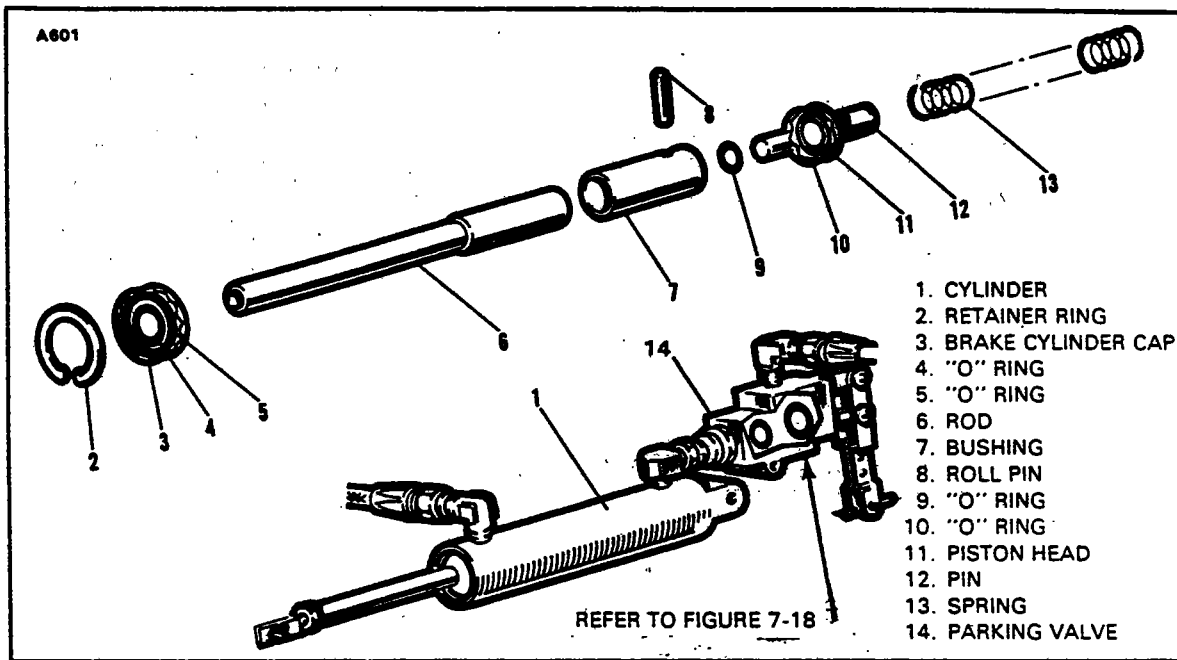
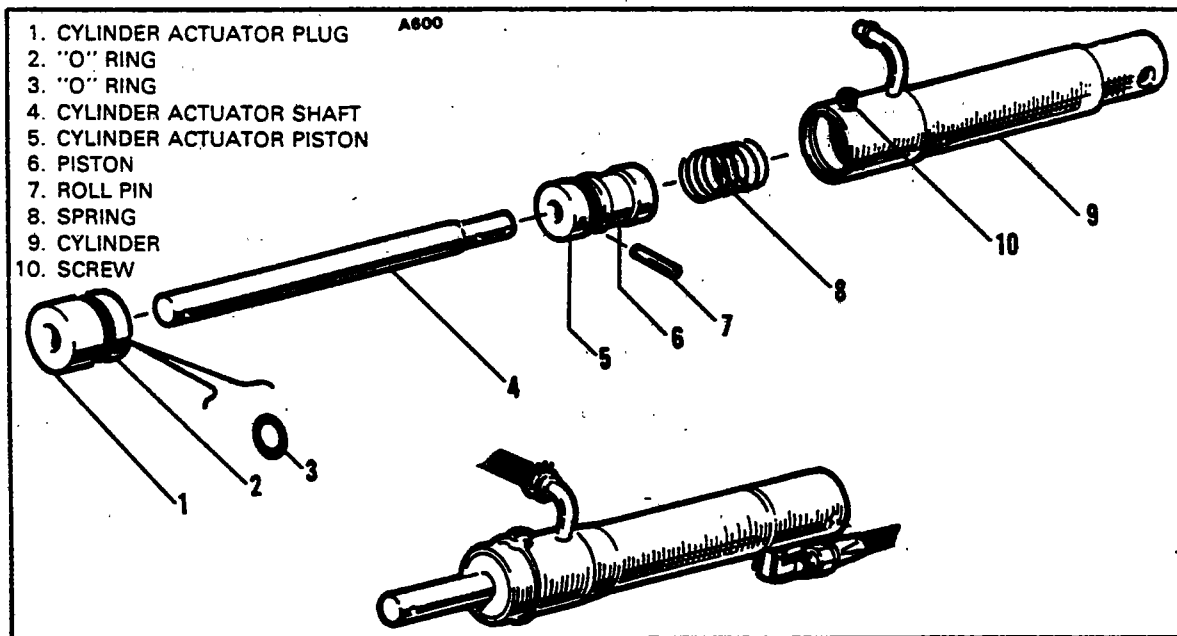
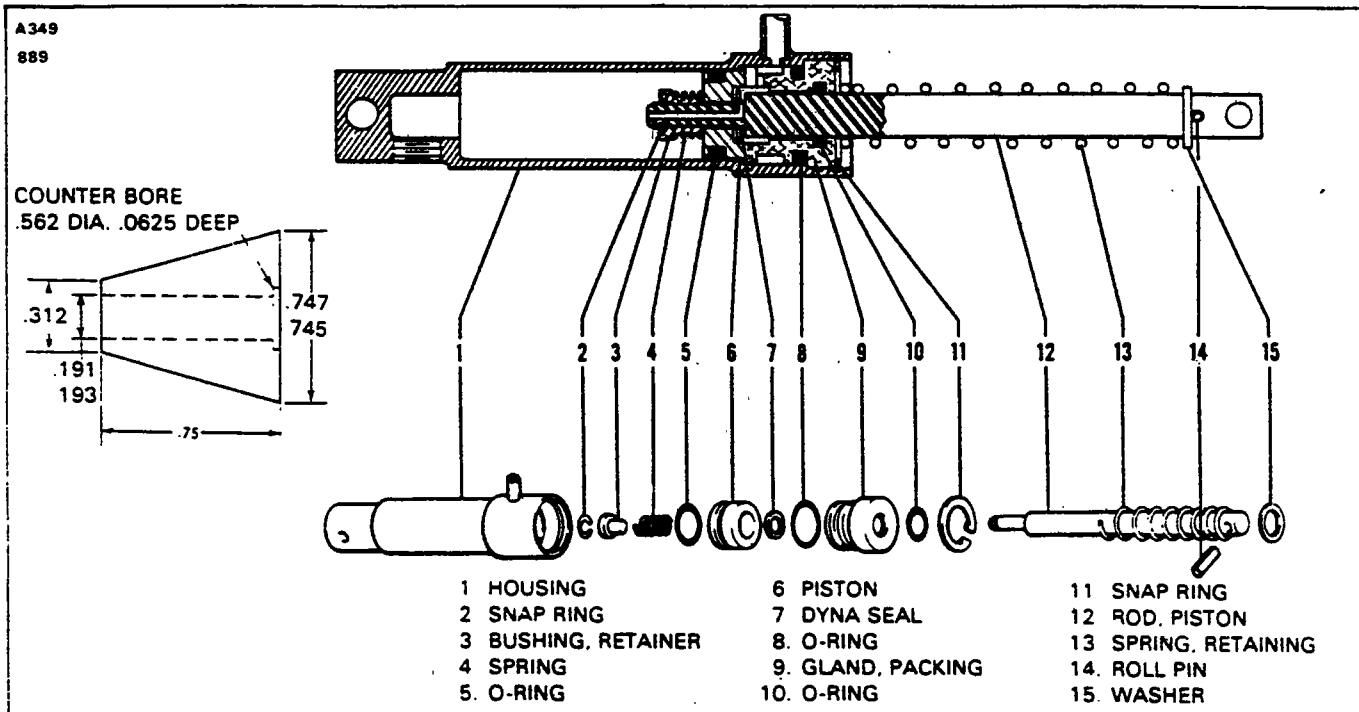

Figure 7-15. Brake Master Cylinder (Hand Brake)
Figure 7-16. Brake Master Cylinder (Hand/Parking Brake)
Figure 7-17. Brake Master Cylinder. (Hand/Parking Brake)
- a. PA-28-150, -160, Serial Nos. 28-1 to 28-250 incl. (Refer to Figure 7-15.)
2. To disassemble the cylinder, first remove the piston rod assembly by removing the retainer ring (2) from the annular slot at the rod end of the cylinder. Draw the piston rod assembly from the cylinder. Remove the spring (13) from the cylinder.
3. The piston rod assembly may be disassembled by first removing the clevis end from the piston rod (6) and then sliding off the brake cylinder cap (3).
4. Remove the roll pin (8) from the bushing (7) thus releasing the piston head and O-rings (9 and 11).
- b. PA-28-140, Serial Nos. 28-20002 to 28-21036 incl; PA-28-150, -160, -180 Serial Nos. 28-251 to 28-2700 incl; PA-28-235, Serial Nos. 28-10003 to 28-10679 incl. (Refer to Figure 7-16.)
2. Cut the safety wire and remove screw (10) that secures the plug (1) in the end of the cylinder (9).
3. Remove the plug (1) and piston assembly from the cylinder by pulling the cylinder actuator shaft (4) from the cylinder.
4. Remove the spring (8) from within the cylinder.
5. Remove the roll pin (7) from the cylinder actuator piston (5) and pull off the piston.
- c. PA-28-140, Serial Nos. 28-21037 and up; PA-28-150, -160, -180, Serial Nos. 28-2701 and up; PA-28-235, Serial Nos. 28-10698 and up. (Refer to Figure 7-17.)
2. To disassemble the cylinder, first remove the piston rod assembly by removing the snap ring (11) from the annular slot at the rod end of the cylinder. Draw the piston rod assembly from the cylinder.
3. The piston rod assembly may be disassembled by first removing the small snap ring (2) securing the retainer bushing (3), spring (4), piston (6), seal (7), gland (9), and, if desired, the large retainer spring (13).
- a. PA-28-150. -160. Serial Nos. 28-1 to 28-250 incl. (Refer to Figure 7-15.)
b. PA-28-140, Serial Nos. 28-20002 to 28-21037; PA-28-150, -160, -180, Serial Nos. 28-251 to 28-2700 incl; PA-28-235, Serial Nos. 28-10003 to 28-10697 incl. (Refer to Figure 7-16.)
1. Install the new "O" rings (2 and 3) on the cylinder plug (1).
2. Install the cylinder actuator piston (5) on the actuator shaft (4) and secure with the roll pin (7).
3. Install a new "O" ring (6) on the actuator pin.
4. Place the spring (8) into the cylinder housing, and carefully slide the actuator and shaft assembly into the housing.
5. Install the plug assembly (1) on the shaft and install the screw through the housing.
- c. PA-28-140. Serial Nos. 28-21037 and up; PA-28-150, -160, -180. Serial Nos. 28-28-2701 and up; PA-28-235. Serial Nos. 28-10698 and up. (Refer to Figure 7-17.)
1. Install new "O" ring on the inside and outside of the packing gland (9) and on the outside of the piston (6). (When installing teflon "O" ring (5) on piston, it is recommended that it be installed with the use of a cone placed against the piston. The cone may be constructed of plastic or metal with dimensions shown in Figure 7-17.)
2. To assemble the piston rod assembly, install on the rod (12), in order, the roll pins (14), return spring retainer washer (15), retaining spring (13), packing gland (9) with "O" rings (10), seal (7), piston (6) with "O" ring, spring (4) and retainer bushing (3). Secure these pieces with snap ring (2) on the end of the rod.
3. Insert the piston rod assembly in the housing (1) and secure packing gland with snap ring (11).